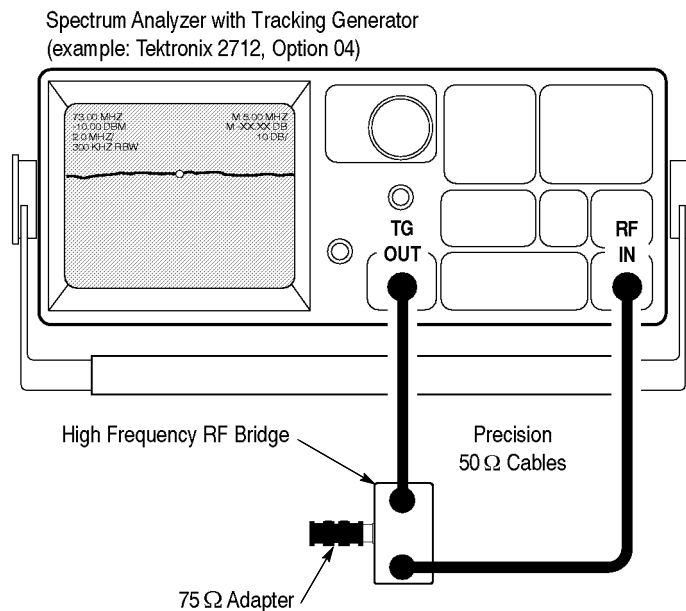

Figure 3–3: Initial return loss setup
3. Connect a 75 Ω male-to-male BNC adapter to the RF bridge device under test connector. The equipment setup should now resemble the arrangement illustrated in Figure 3–3.